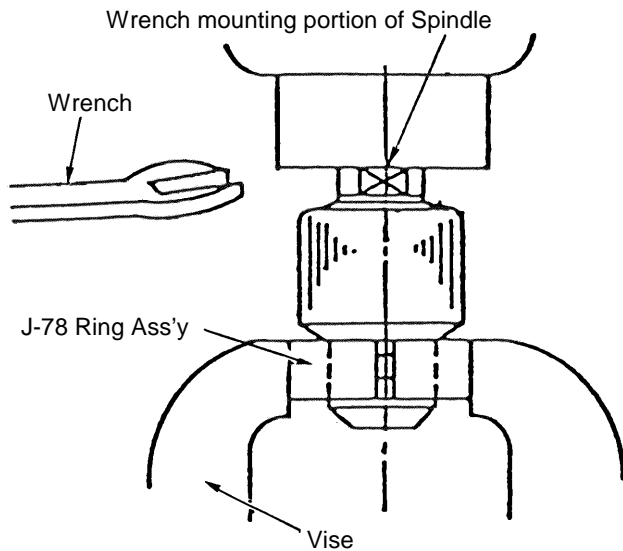

Fig. 2
For all models, the Drill Chuck ② (③) is fixed to the Spindle Ass'y ③ (④) by a UNF1/2"-20 right-hand thread. As illustrated in Fig. 2, fit a J-78 Ring Ass'y (special repair tool) onto the Drill Chuck body, and secure it in a vise. At this time, ensure that the pin of the Ring Ass'y is properly inserted into the chuck wrench mounting hole on the body portion. Then, fit a 14 mm Wrench to the flat surfaces on the Spindle, and rotate it counter-clockwise to loosen and remove the Drill Chuck.